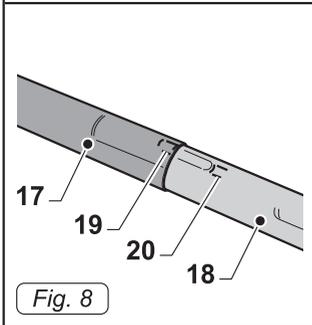

Fig. 9
- Attach to the rigid extension (21 Fig. 9) the desired accessory ( the vacuum nozzle, the dust brush, the accessory for tight spaces, the floor nozzle etc..
- Mount on the rigid extension (21 Fig. 9) the desired accessory, ( vacuum nozzle, floor nozzle etc..)